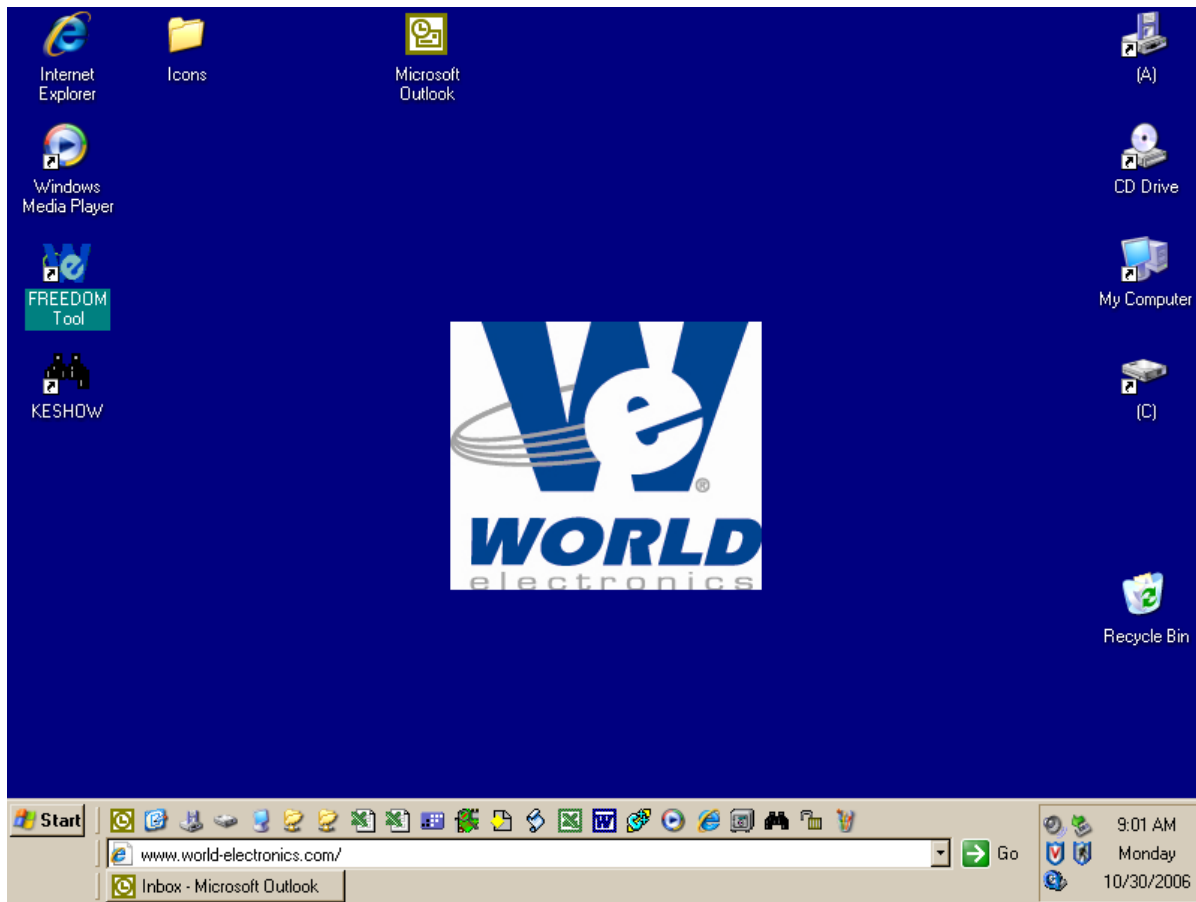

Figure 26
2. From the Microsoft Windows Desktop Screen select the **FREEDOM Tool** Icon by using the pointing device to position the cursor directly over the **FREEDOM Tool** Icon and double clicking the pointing device button. Refer to Figure 26.